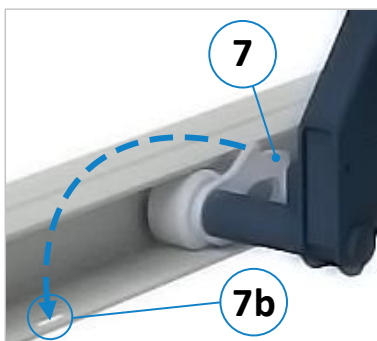

Figure 9: Safety catch for securing
To secure the lift table, move it upwards so that the safety catches (7) can be folded over. Now fold the safety catches (7) manually by 180° so that they engage in the catch point (7b) shown in ⇒ Figure 9.
Position the lift table so far upwards that the safety catches (7) can be folded down. Then fold down the two interconnected safety catches (⇒ Figure 9) and lower the lift table so that the safety catches are engaged. The hydraulic cylinder is now released and accessible for removal.